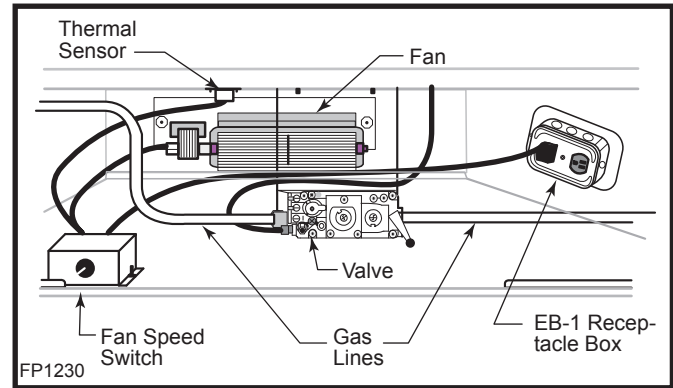

Fig. 52 FK24 fan placement.
3. Locate the fan speed control unit. This can be fitted behind the lower louvre assembly as in Figure 52 or located remotely in a conveniently located wall mounted electrical box. Remote location of the speed control will require suitable extension of the component wiring.